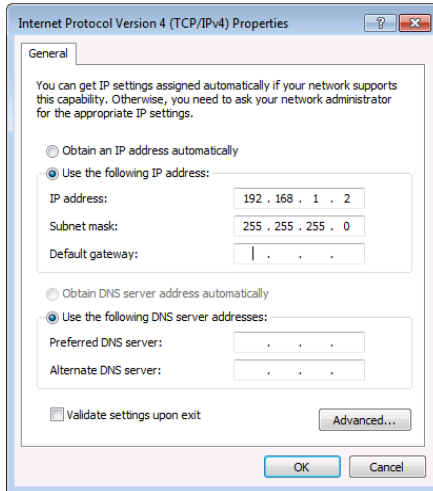

Figure 37: Internet Protocol Properties Window
6. Select **Use the following IP Address** for static IP addressing and fill in the details as shown in Figure 37.